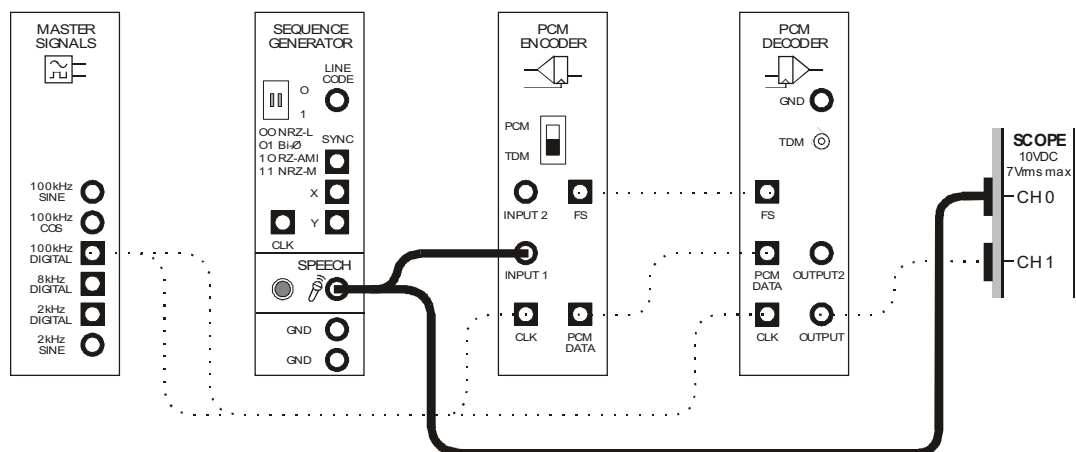

Figure 9
46. Modify the set-up as shown in Figure 9 below.